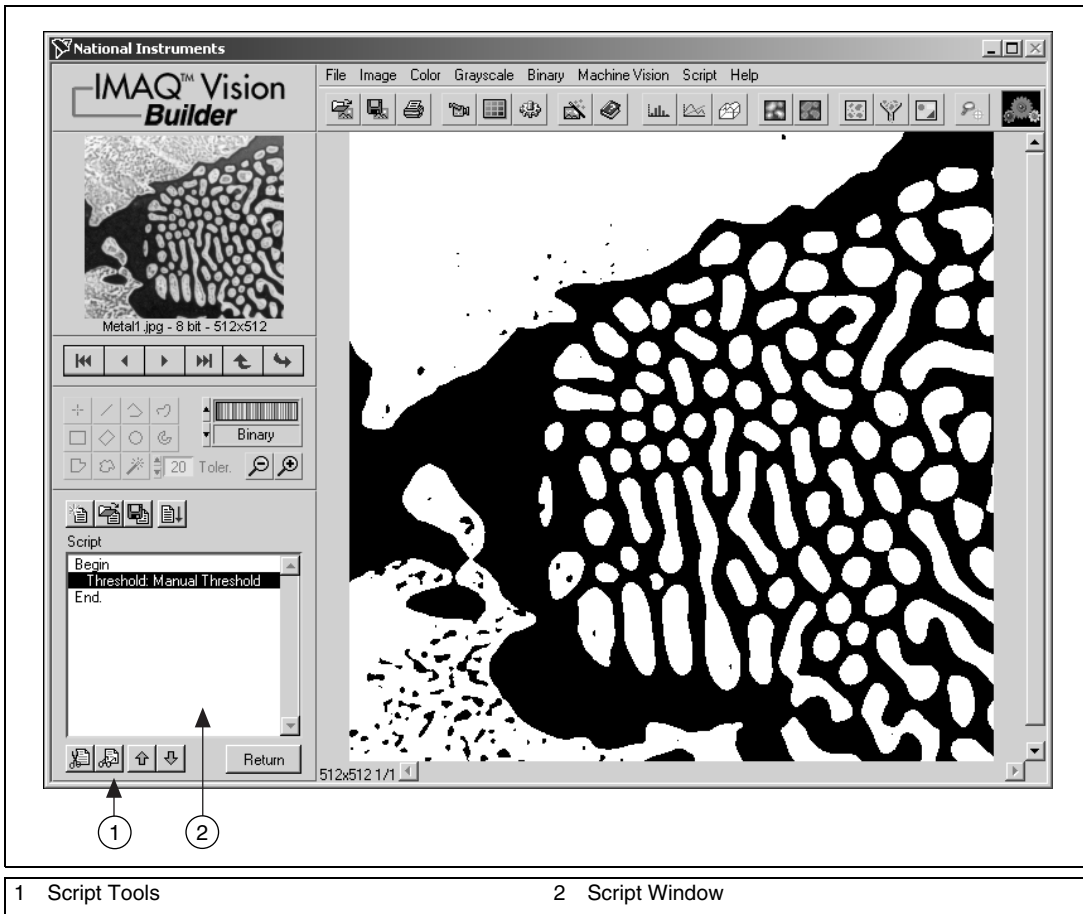

Figure 2-4. Thresholded Image
- Tools palette—Displays a collection of tools for selecting regions of interest (ROIs), zooming in and out, and changing the Image palette. See Figure 2-4, *Thresholded Image*, to view the Tools palette.
Refer to Figure 2-4 to see what the image looks like after applying the threshold.